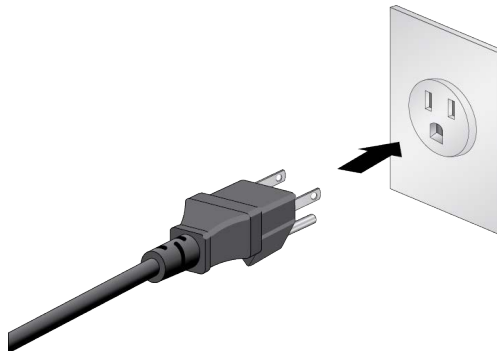

Figure 62. Connecting the Power Cord to an AC Power Source
4. Connect the power cord to an appropriate AC power source. Refer to Figure 62 on page 125.